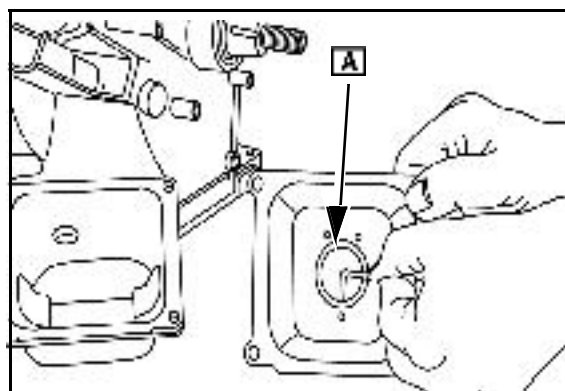

Fig. 28
4. Replace the breather if the fiber disc valve is stuck or binding. **0.045 in. (1.14 MM)** wire gauge ([A] Fig. 28) should not enter the space between the fiber disc valve and body. Do not force the gauge.